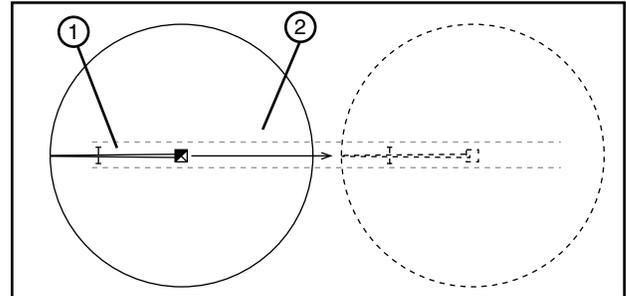

Figure 33-1 1. Machine
1. Position the machine in the tow lane. See Figure 33-1.